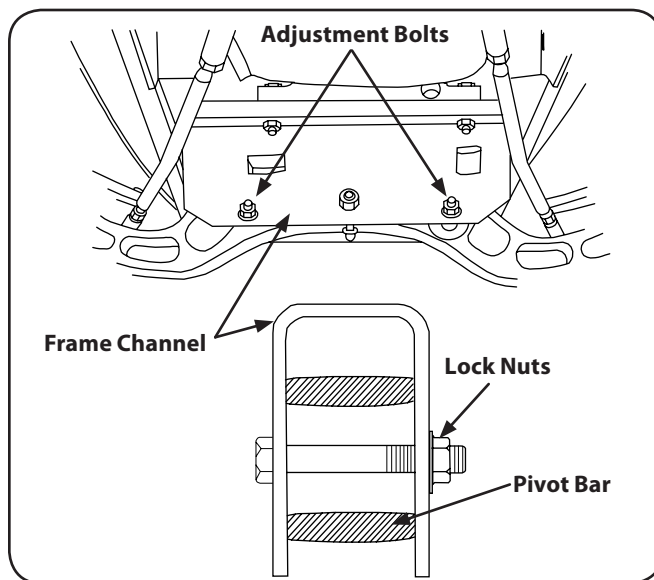

Figure 6-10
2. Move the ends of the pivot bar up and down to check for binding. If binding is present, loosen the lock nuts until binding is eliminated. See Fig. 6-10